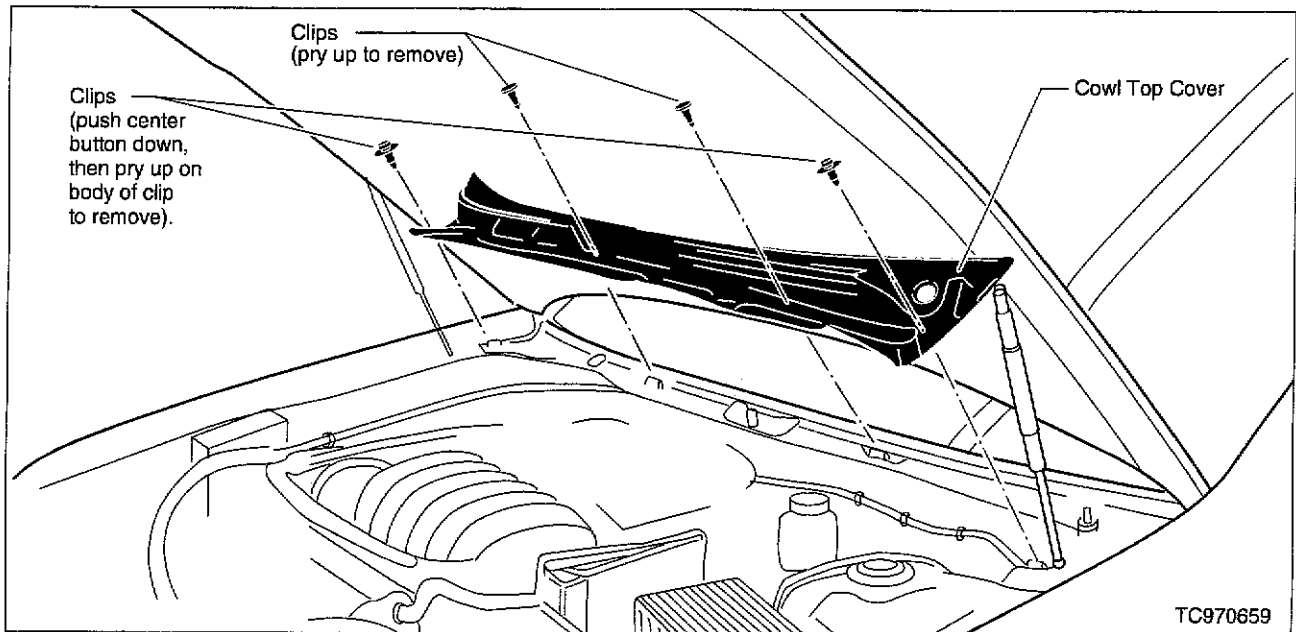

Figure 2
B. Remove and discard the cowl top cover. Save four securing clips (see Figure 2).